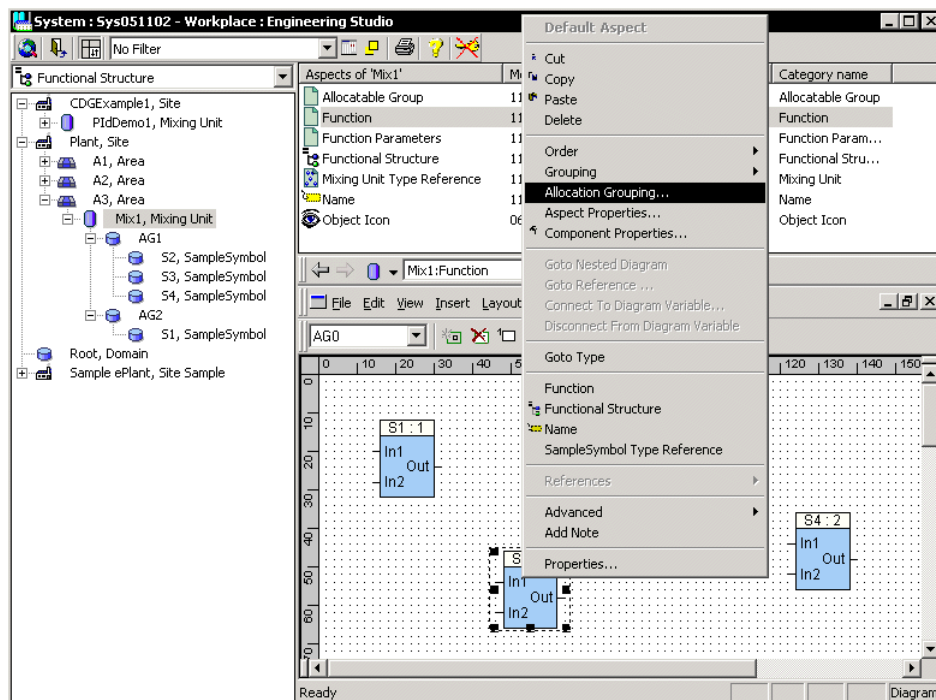

Figure 291. Group into Allocatable Groups by Context Menu
4. Selected function component aspect objects get automatically moved in Functional Structure and located as child objects of the corresponding allocatable group, see Figure 291.